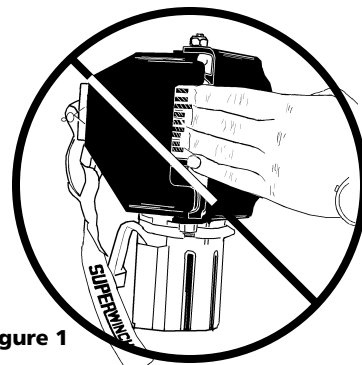

Figure 1
9. Keep Hands away from PINCH POINTS (Figure 1).